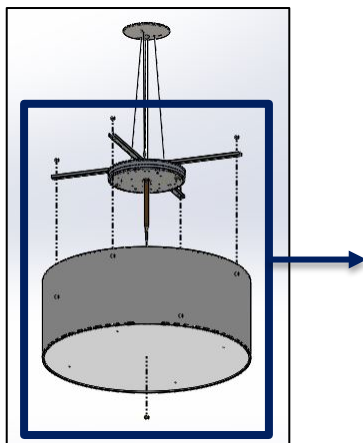
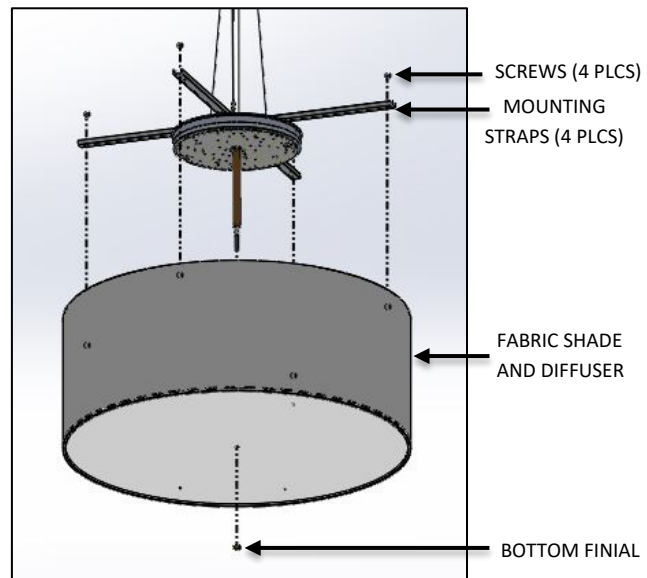

FIG. 26 – FABRIC SHADE AND DIFFUSER INSTALLATION
FIG. 27 – DETAIL SHOWING FABRIC SHADE AND DIFFUSER INSTALLATION
12. Unscrew the BOTTOM FINIAL from BOTTOM STEM ASSEMBLY. Attach FABRIC and DIFFUSER to the MOUNTING STRAPS and secure with the SCREWS provided as shown in FIG. 26. Make sure the center stem is lined up with the hole in the DIFFUSER and attach to BOTTOM FINIAL as shown below in FIG. 27.